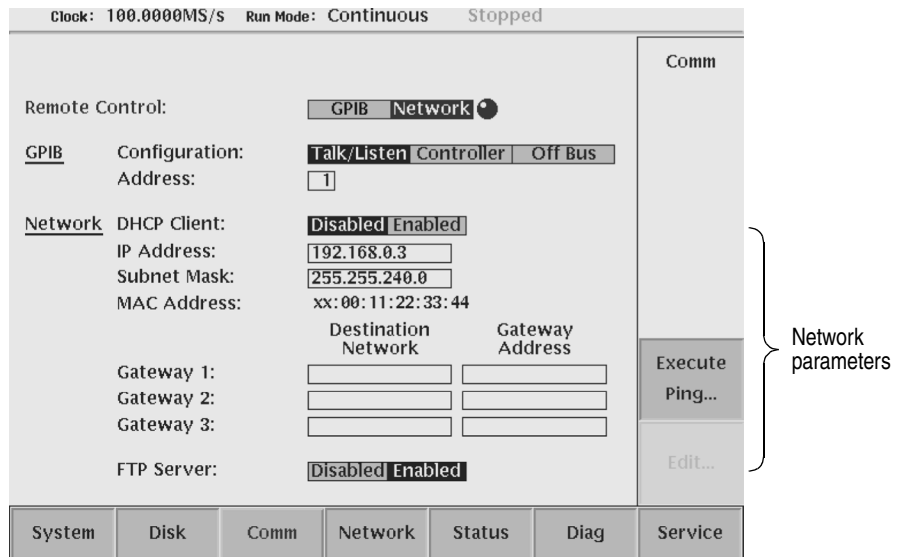

Figure 1-10: Setting the Network parameters
4. Move the cursor to the **Network IP Address** field using the up/down (↑/↓) arrow buttons, then press the **Edit...** button and set the address using the keypad. See Figure 1-10 on page 1-10.